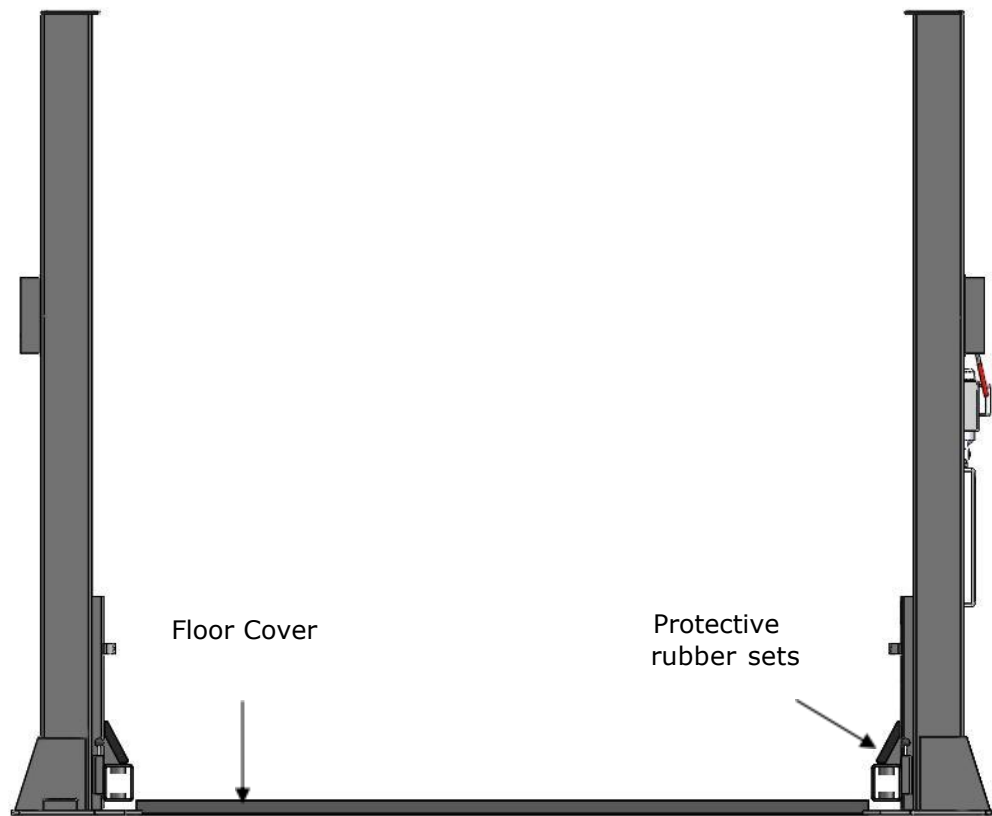

Fig. 23
M. Assemble floor cover and protective rubber sets (See Fig. 23).